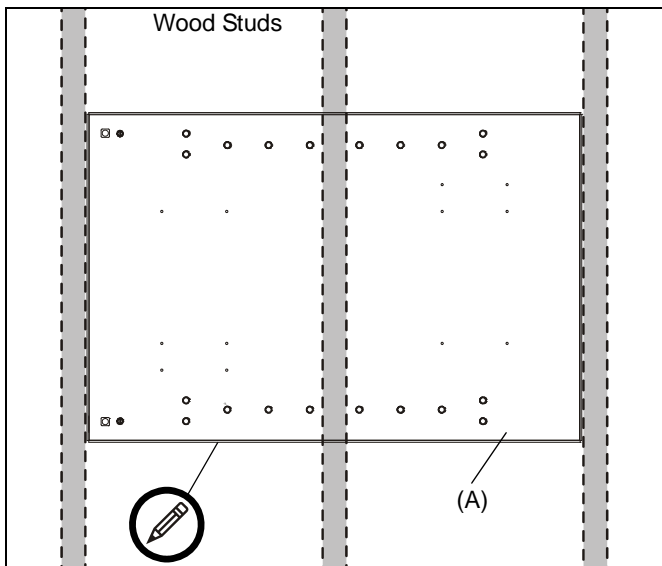

Figure 1
4. Using PAC502 (A) as a template, draw pencil line completely around in-wall enclosure. (See Figure 1)